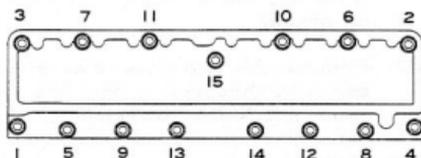

Fig.3-2 Cylinder Head X4969
25. Remove the valve rocker shaft oil delivery union from the oil delivery pipe. Loosen and remove the cylinder head bolts in the order illustrated in figure 3-2 to prevent warpage. Do not loosen and remove the cylinder head bolts at one time.